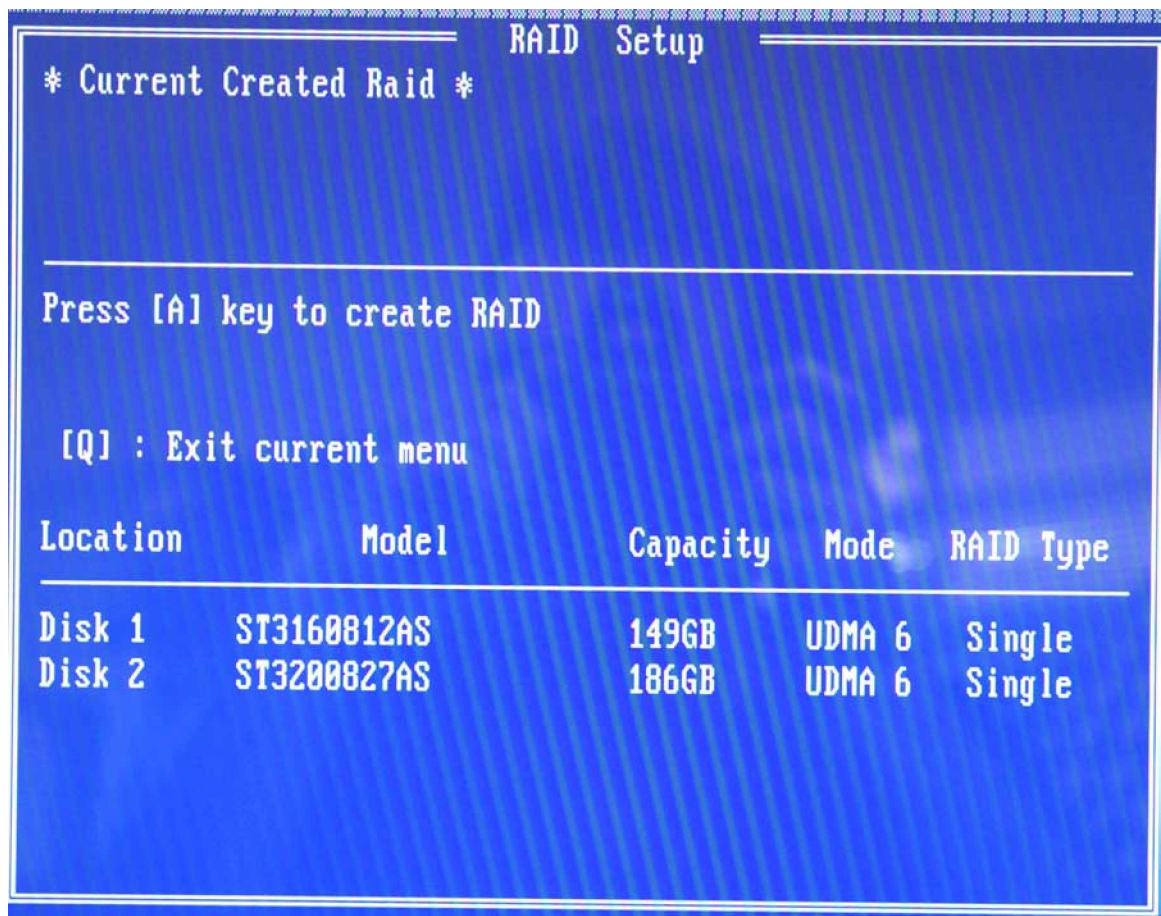

Figure E-5: Create RAID
Step 3: To setup the RAID, press "R." The RAID setup screen appears (see **Figure E-5**).
- Step 4:** Click "A" to setup the RAID(see **Figure E-5**).